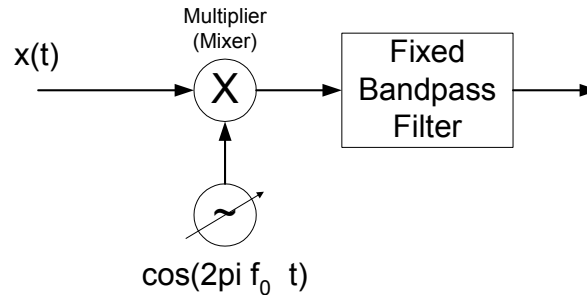

Figure 1: Frequency Mixing, or Heterodyning
Now instead of a bank of narrow filters, we shall have one narrow filter centered at a fixed frequency, say f_1 , and we shall scan the signal spectrum across this filter by multiplying $x(t)$ by a sinusoid of varying frequency f_0 . See Figure 1. The filter is a narrow bandpass filter at a fixed center frequency, f_1 , (called the intermediate frequency); in a spectrum analyzer, its bandwidth is selected by the user. The oscillator frequency, f_0 , is adjustable, as indicated in Figure 1. In an ordinary AM or FM radio, when you tune the receiver you are selecting this frequency so that the desired signal will pass through the filter; in a spectrum analyzer, this frequency is automatically scanned (repeatedly) over a range, which must be selected so that the frequency component $X(f)$ is shifted to f_1 and passed by the filter. For example, if we want to view the frequency content of $x(t)$ from f_1 to f_2 , then we must select f_0 to scan from $f_1 + f_1$ to $f_2 + f_1$.
Of course, much more signal conditioning is going on inside the spectrum analyzer than is indicated in Figure 1; but the frequency mixing is the fundamental step. In particular, the signal first is passed through a lowpass filter whose bandwidth is chosen to eliminate image frequencies, more on this concept later in the course. Also, most scanning spectrum analyzers are multiple conversion analyzers - they have multiple intermediate frequency stages, at successively lower frequencies. The reason is that we have two conflicting goals to achieve; we would like to have the filter bandwidth as small as feasible, and we would like to be able to scan over large frequency ranges. It is hard to build sharp narrow filters at high frequencies, but it is also hard to build multipliers that will work over large frequency ranges. Therefore, we achieve narrow filters at low intermediate frequencies by shifting the frequency down in several steps. The User's Manual for the Tektronix Spectrum Analyzer has a nice overview diagram of its internals if you are interested - you will learn about many of the components given on this diagram at the end of this quarter, or if you continue with 145B/218B.
In normal operation the frequency control selects the range that the variable oscillator in Figure 1 sweeps through. Pressing the FREQUENCY button causes the frequency menu to appear on the screen. You can select the CENTER frequency (CF) and the START and STOP frequencies. You select the numerical values by turning the control knob, pressing the up/down arrows or by entering the value with the numerical keypad.
The resolution bandwidth is essentially the bandwidth of the fixed narrowband filter in Figure 1. (In reality, there are several stages of filtering.) Pressing the BW/Avg button displays the menu from which you can select the resolution bandwidth, the video bandwidth, and associated controls. Note that you cannot select a continuous range of RBW-there is only a finite selection available.
Video Bandwidth (VBW) is basically a smoothing filter with a bandwidth equal to the RBW. VBW essentially reduces the noise displayed, making the power levels easier to see. VID FLTR button allows you to change the VBW. The sweep control is usually controlled by the spectrum analyzer (the rate at which different frequencies, f_0 in Figure 1, are changed) but you can change this by using the arrows under the SWEEP heading.